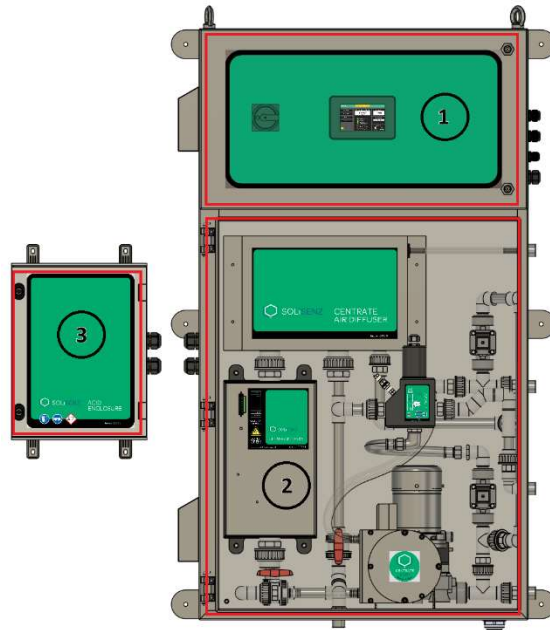

Fig. 3.1 — System overview
- Centrate sample drain/outlet must be free of pressure and vacuum — it MUST NOT flow upwards. See item 3 on figure 3.1